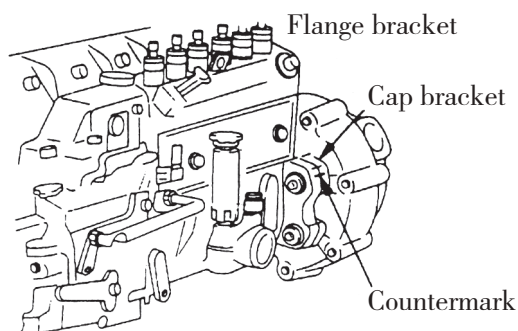

Fig. 1.14
(1) First make sure if the “assembly marks” on the flange of oil injection pump are in conformity with each other, See Fig. 1.14.